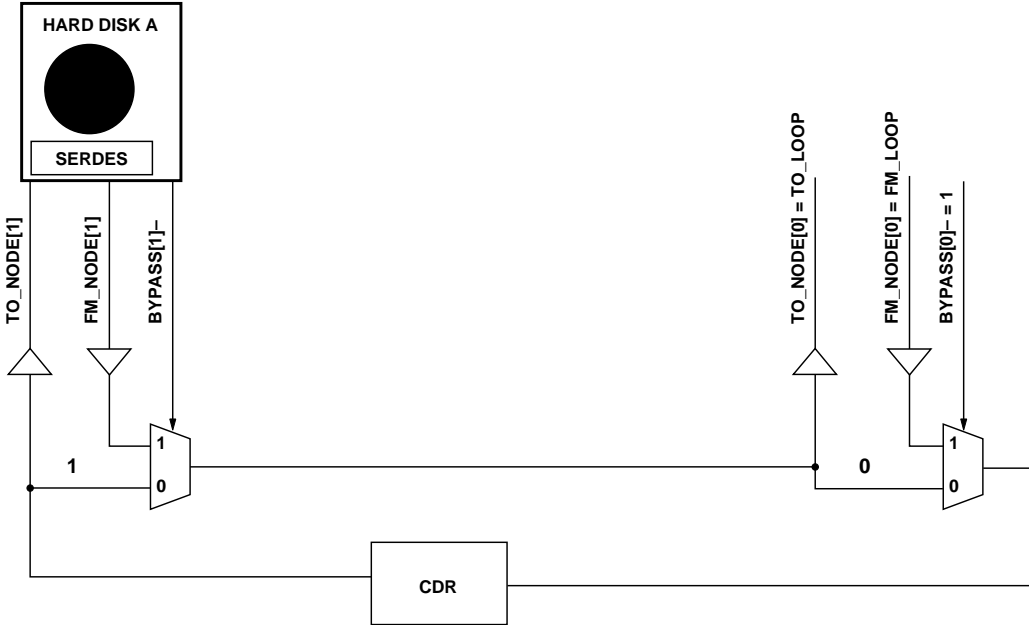
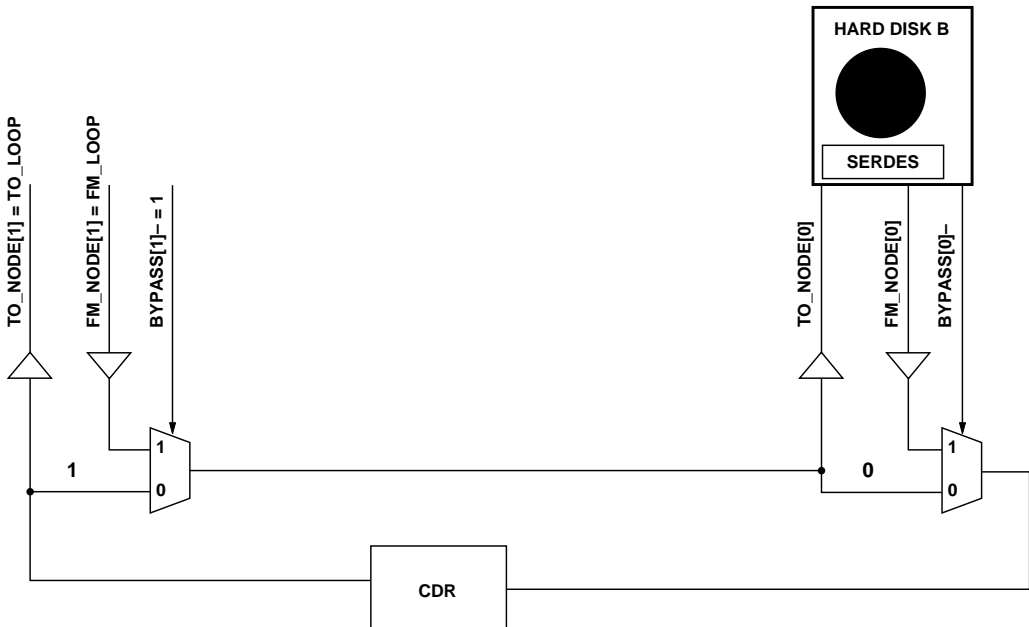

Figure 4: Connection Diagram. Case of CDR Before Entering the Hard Disk.
Figure 5: Connection Diagram. Case of CDR After Exiting the Hard Disk.
A Port Bypass Circuit is a 2:1 Multiplexer array with two modes of operation: DISK IN LOOP and DISK BYPASSED. In DISK IN LOOP mode, the loop goes into and out of the disk drive. Data go from the HDMP-0421's TO_NODE[n] \pm differential output pins to the Disk Drive Transceiver IC (for example, an HDMP-1536A) Rx \pm differential input pins. Data from the Disk Drive Transceiver IC Tx \pm differential output pins go to the HDMP-0421's FM_NODE[n] \pm differential input pins. Figures 4 and 5 show connection diagrams for disk drive array applications. In DISK BYPASSED mode, the disk drive is either absent or non-functional and the loop bypasses the hard disk. DISK IN LOOP mode is
(Figure 4). To achieve a CDR function after slot A, the BYPASS[1]– pin must be HIGH and hard disk slot A must be connected to PBC cell 0 (Figure 5). Table 2 shows both possible connections. In both cases, a Signal Detect (SD) pin
Table 2. Pin Connection Diagram to Achieve Desired CDR Location (see Figures 4 and 5)